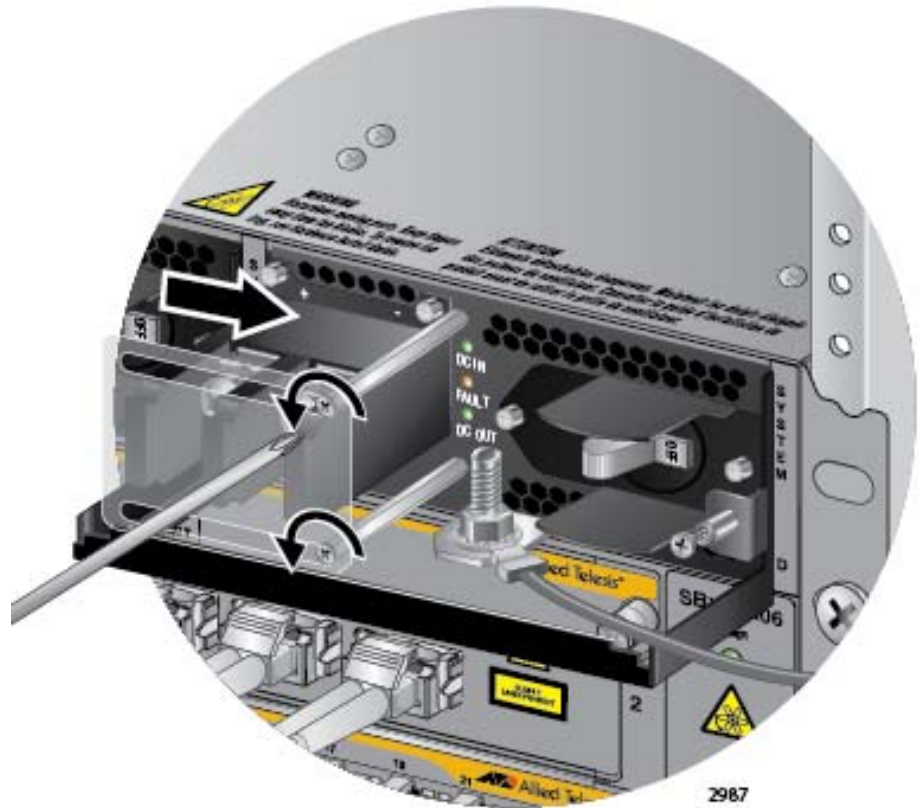

Figure 110. Opening the Plastic Cover
4. Use a #1 Phillips-head screwdriver to loosen the two screws on the plastic cover over the positive and negative terminals on the power supply and slide the cover to the right, as shown in Figure 110 on page 171. You may need to slightly lift the locking handle to access the bottom screw.
2. Use a #1 Phillips-head screwdriver to loosen the two screws on the plastic cover over the positive and negative terminals on the power supply and slide the cover to the right, as shown in Figure 110 on page 171. You may need to lift the locking handle slightly to access the bottom screw.